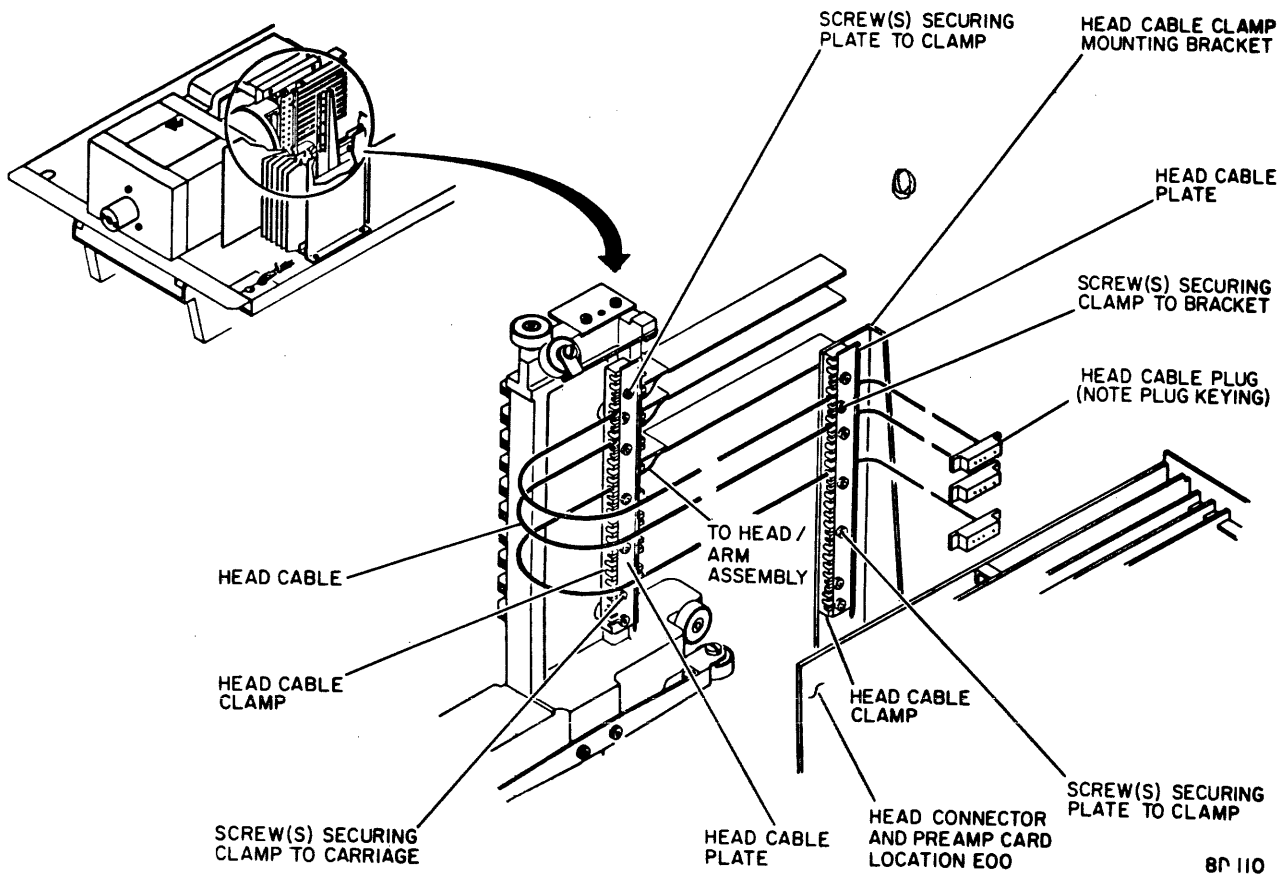

Figure 3-30. Head Cable Clamping/Connecting
5. Remove head cable plate (Figure 3-30).
7. Carefully remove head cable for faulty head from head cable clamp (Figure 3-30) and disconnect related head cable plug at card E00.